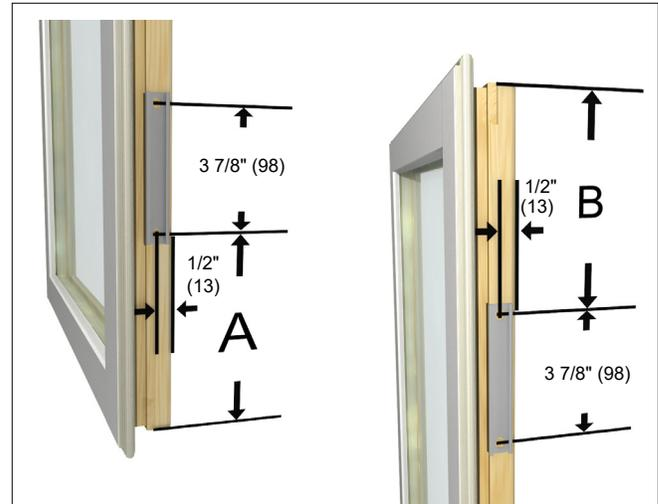
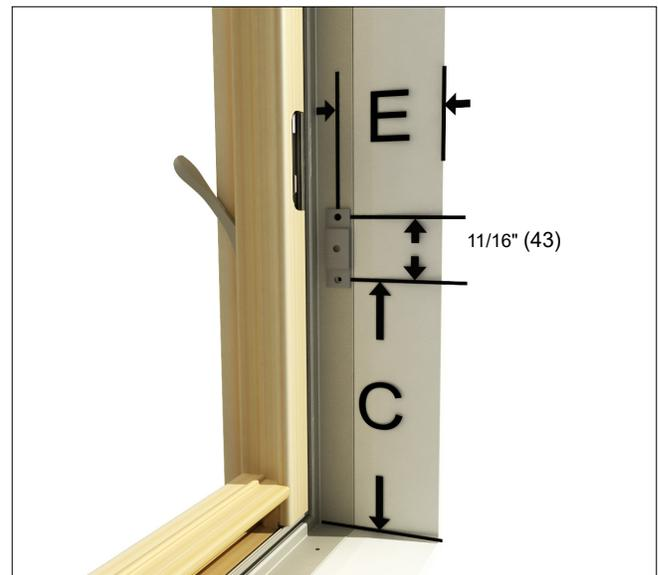
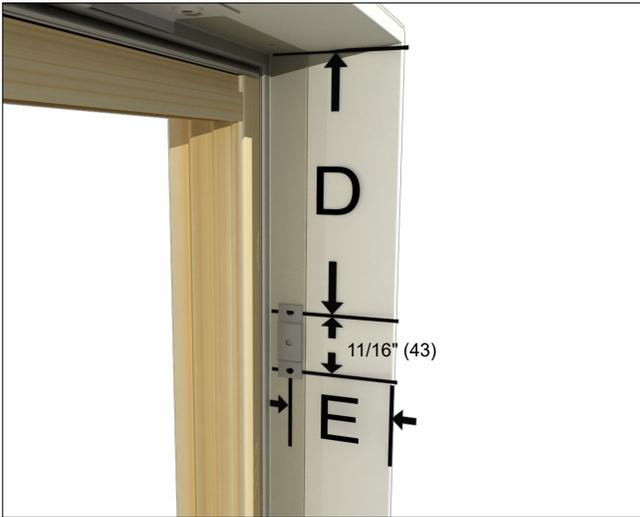

Figure 8 Casement sash shown. Applies to Casement stile (A and B) and Awning bottom rail (B).
Figure 9 Clad frame (also applies to wood frame). Applies to Casement jamb.
Figure 10 Clad frame shown (also applies to wood frame). Applies to Casement jamb and Awning sill.
- Referencing the chart and illustrations below, obtain the correct location for the sash track (dimension A) and frame bracket (dimension C). Depending on the height of your window, you may need to apply two tracks (dimension A and B for the sash track, and dimension C and D for the frame bracket). See figure 8, figure 9 and figure 10.
Ultimate Awning (see figure 8 and figure 10)